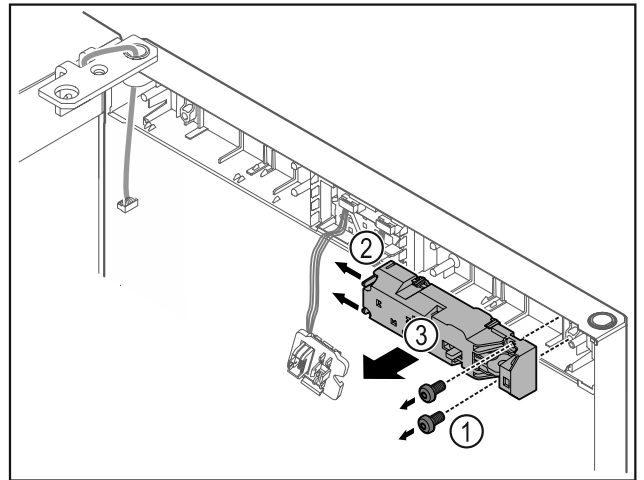

Fig. 18
- ▶ Remove the screws Fig. 18 (1).
- ▶ Press the latching lugs Fig. 18 (2) to the side and take off the remote lock Fig. 18 (3).